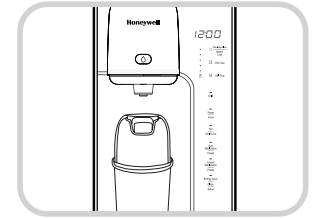

Fig. 19
1. Place the Sterilizing Cup below the Faucet with the indicating arrow facing inwards. The Voice Guide will say "sterilization cup detected" (Fig. 19).